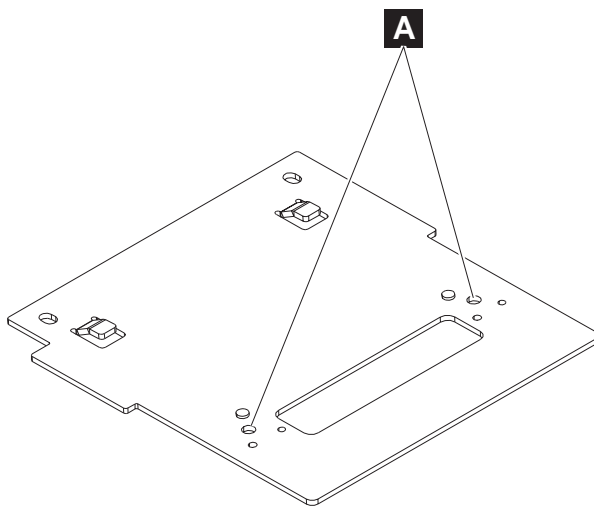

Figure 14. Attaching the base foot to the countertop
4. Use the SurePOS 500 Model 514 base plate as a pattern for drilling two mounting-screw holes at location **A** in Figure 14. If you plan to route the cables underneath the counter, use the base plate as a pattern to drill the cable opening and for drilling the holes for the mounting screws.